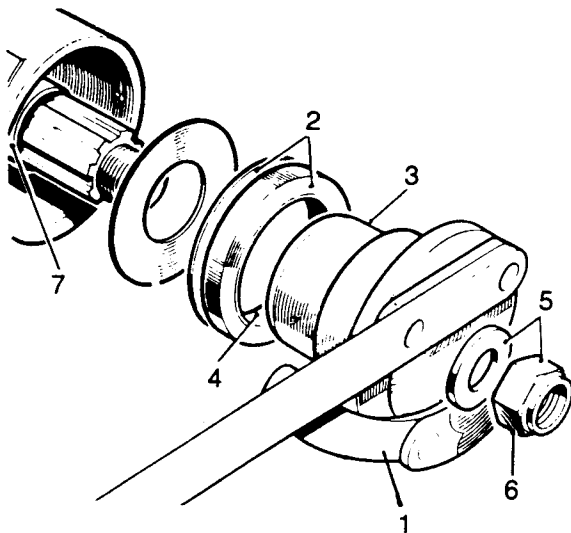

Fig J2.9
- (6) Refer to Fig J2.9. Using special tool 18G1205 (1) to prevent the pinion from rotating, remove the flange retaining nut and washer, and withdraw the pinion flange.
- (7) Extract and discard the oil seal gasket (2).
- (8) Examine the pinion flange (3) for damage, paying particular attention to the oil seal track area.
2. Replace the oil seal (Fig J2.9 still applies):